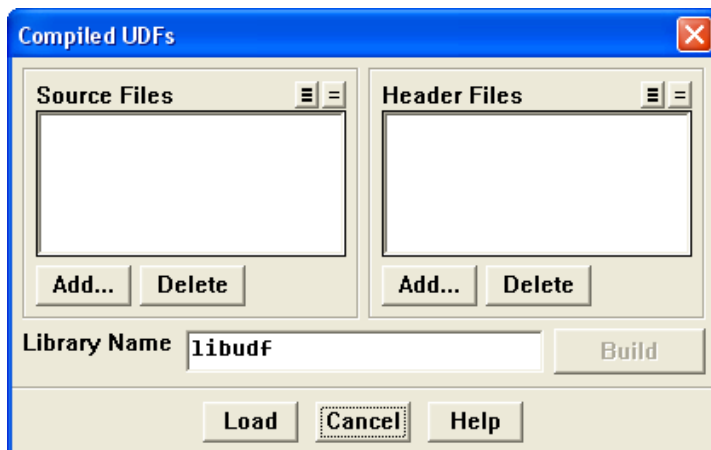

Figure 5.2.1: The Compiled UDFs Panel
4. Open the Compiled UDFs panel (Figure 5.2.1).